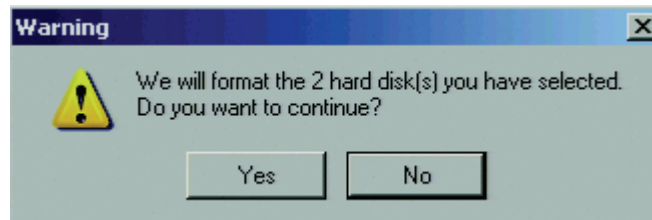

Figure 85. Format Warning Dialog Box
- c. Click "Begin allocation." The Warning dialog box appears (refer to Figure 85).